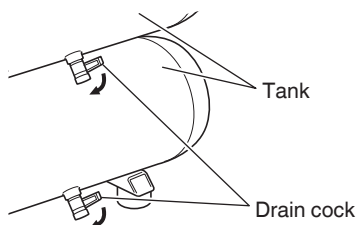

Fig. 8
- (2) Unplug the plug from power source.
- (3) Open the drain cock located at the lower part of the tank (Fig. 8).
Drain tank daily or after 4 hours of use. Open drain cock and tilt compressor to empty accumulated water (Refer to Fig. 8).